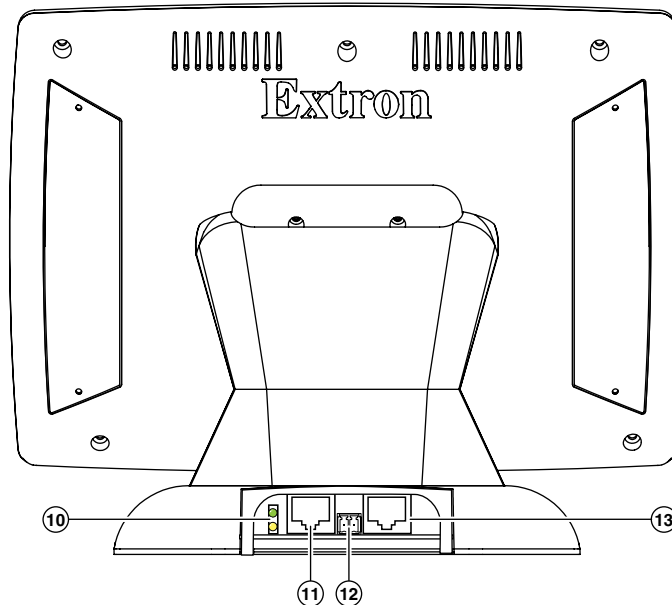

Figure 7. TLP 700TV Rear Features
- ⑱ **Access for disconnecting RJ-45 connectors** — When RJ-45 connectors are covered with a protective boot, it can be difficult to remove them from their sockets. The two holes are directly underneath the two RJ-45 jacks (see figure 7). Pushing the tip of a pen or pencil through the holes makes it easy to disconnect the RJ-45 connectors.
- ⑲ **Security mounting** — If required, **secure the unit to the desktop**, using two screws, as described on page 41.